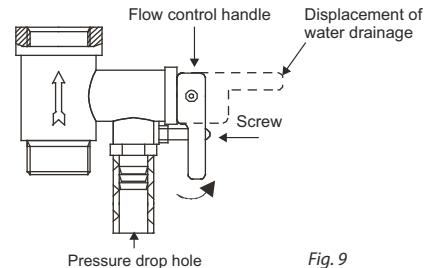

Fig. 9
- unscrew the back pressure safety valves and set the handle in horizontal position; water will flow out from the pressure relieving opening (refer to the figure 9).